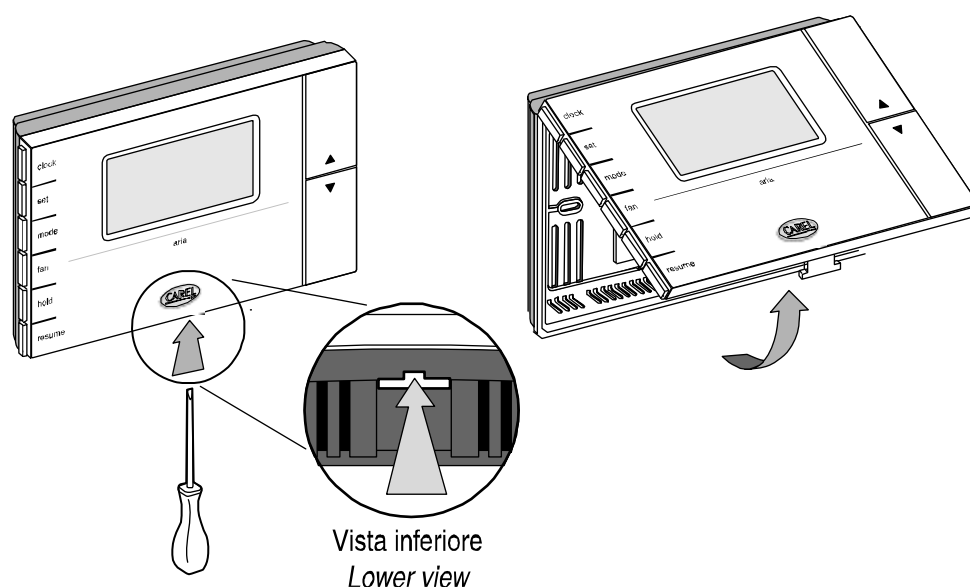

Figure 3.1.1
1. To detach the front panel of the terminal from the rear shell, place a flat-heat screwdriver in the slot in the centre of the bottom side of the housing and release the locking flap (Fig. 3.1.1).
2. Raise the front panel using a “hinge” movement, using the upper edge of the instrument as the pivot and raising the lower edge (Fig. 3.1.1);